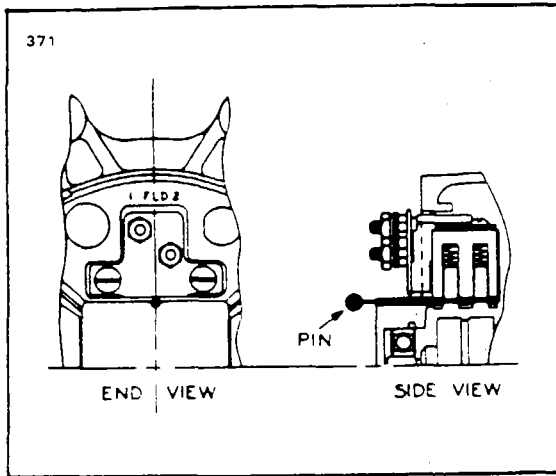

Figure 10-24m. Brush Installation
c. Brushes: These units have a separate brush holder assembly that is installed after the alternator has been assembled. The brush holder has a small hole that intersects the brush cavities. Use a pin or a piece of wire, as shown in Figure 10-24m to hold the brushes in the holder during assembly. Remove the pin after the brush holder retaining screws have been tightened. Make a continuity check to be sure the brushes are seated against the slip rings.